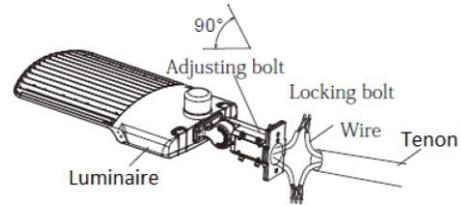

Figure 13
**Step 1:** Remove the tilt adjustor mounting screw, align the four holes in the slip fitter with the four tapped holes in the luminaire housing, and run the wires through the slip fitter. (Figure 13)